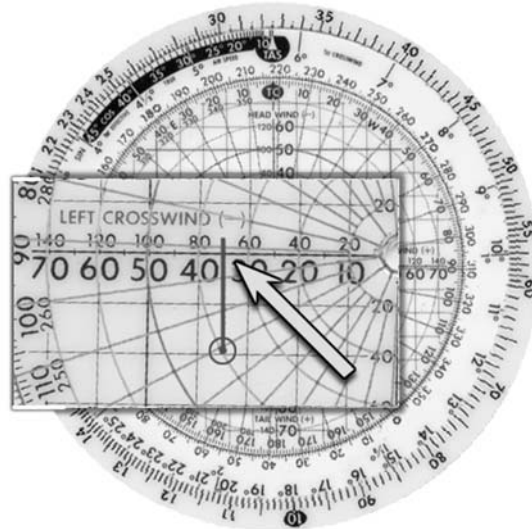

Figure 4.5-15 Preflight Wind Calculation 4
- Determine the Crosswind component by drawing a vertical line (up in this case) from the wind dot to the Crosswind scale. Read velocity in knots remembering to use the same scale as step 2 (Figure 4.5-15).